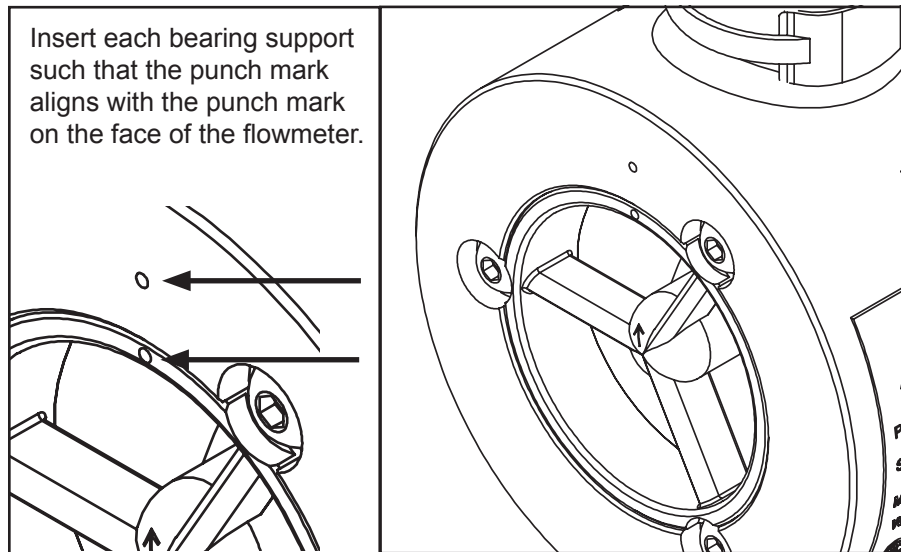

Figure 7—Positioning of bearing supports
1. Insert a bearing support in the meter body, ensuring that the flow arrow is pointing in the direction of flow and the punch marks on the support and meter body are aligned (Figure 7, page 22).